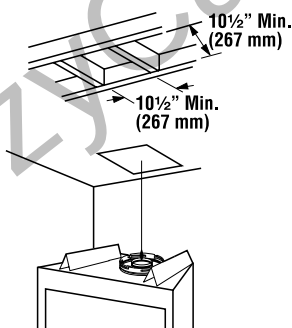

Figure 18
A. Frame ceiling opening - Use a plumb line from the ceiling above the appliance to locate center of the vertical run. Cut and/or frame an opening, 10½" x 10½" (267mm x 267mm) inside dimensions, about this center mark (**Figure 18**).